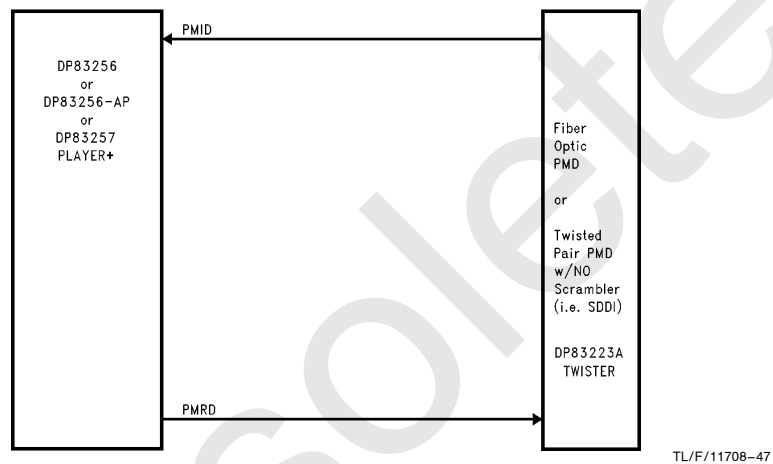

FIGURE 3-20. Fiber Optic or STP PMD Connection
*Figure 3-20* shows how the DP83256, DP83256-AP, or DP83257 PLAYER+ device is connected to a Fiber Optic or Shielded Twisted Pair (SDDI) PMD using the Primary PMD Interface.